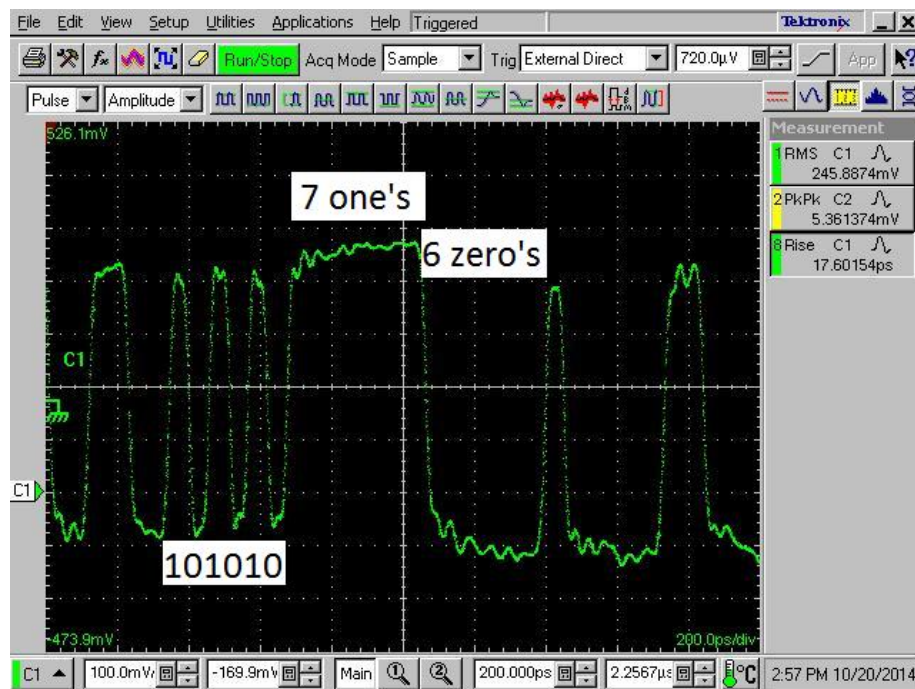

Fig. 6. Correct PRBS7 pattern
10. Adjust Phase Adjust 1 and Phase Adjust 2 until the correct PRBS7 pattern is displayed as shown in **Figure 6**.